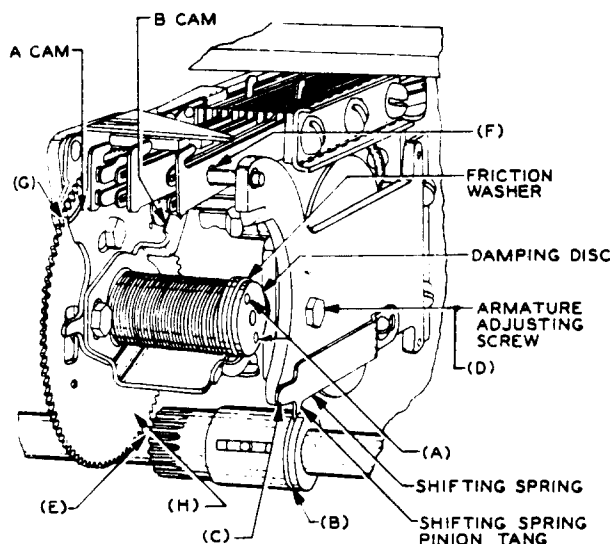

Fig. 5 - Engagement of Shifting Spring Tang and Pinion
2.07 Engagement of Shifting Spring Tang and Pinion - Fig. 5(B)